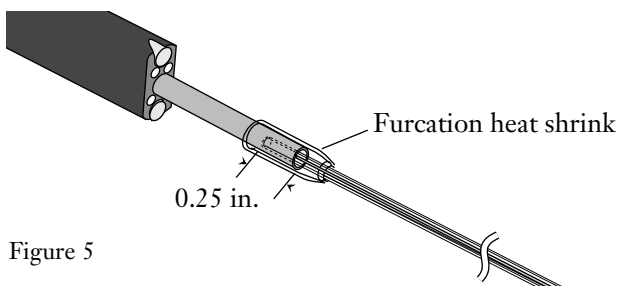

Figure 5
**5.5** Push the 900  $\mu\text{m}$  tubing approximately 0.25 inch into the buffer tube. Wipe off any gel forced from the buffer tube (see Figure 5).
**5.6** Center the furcation heat shrink and shrink it in the heat shrink oven (Figure 5).